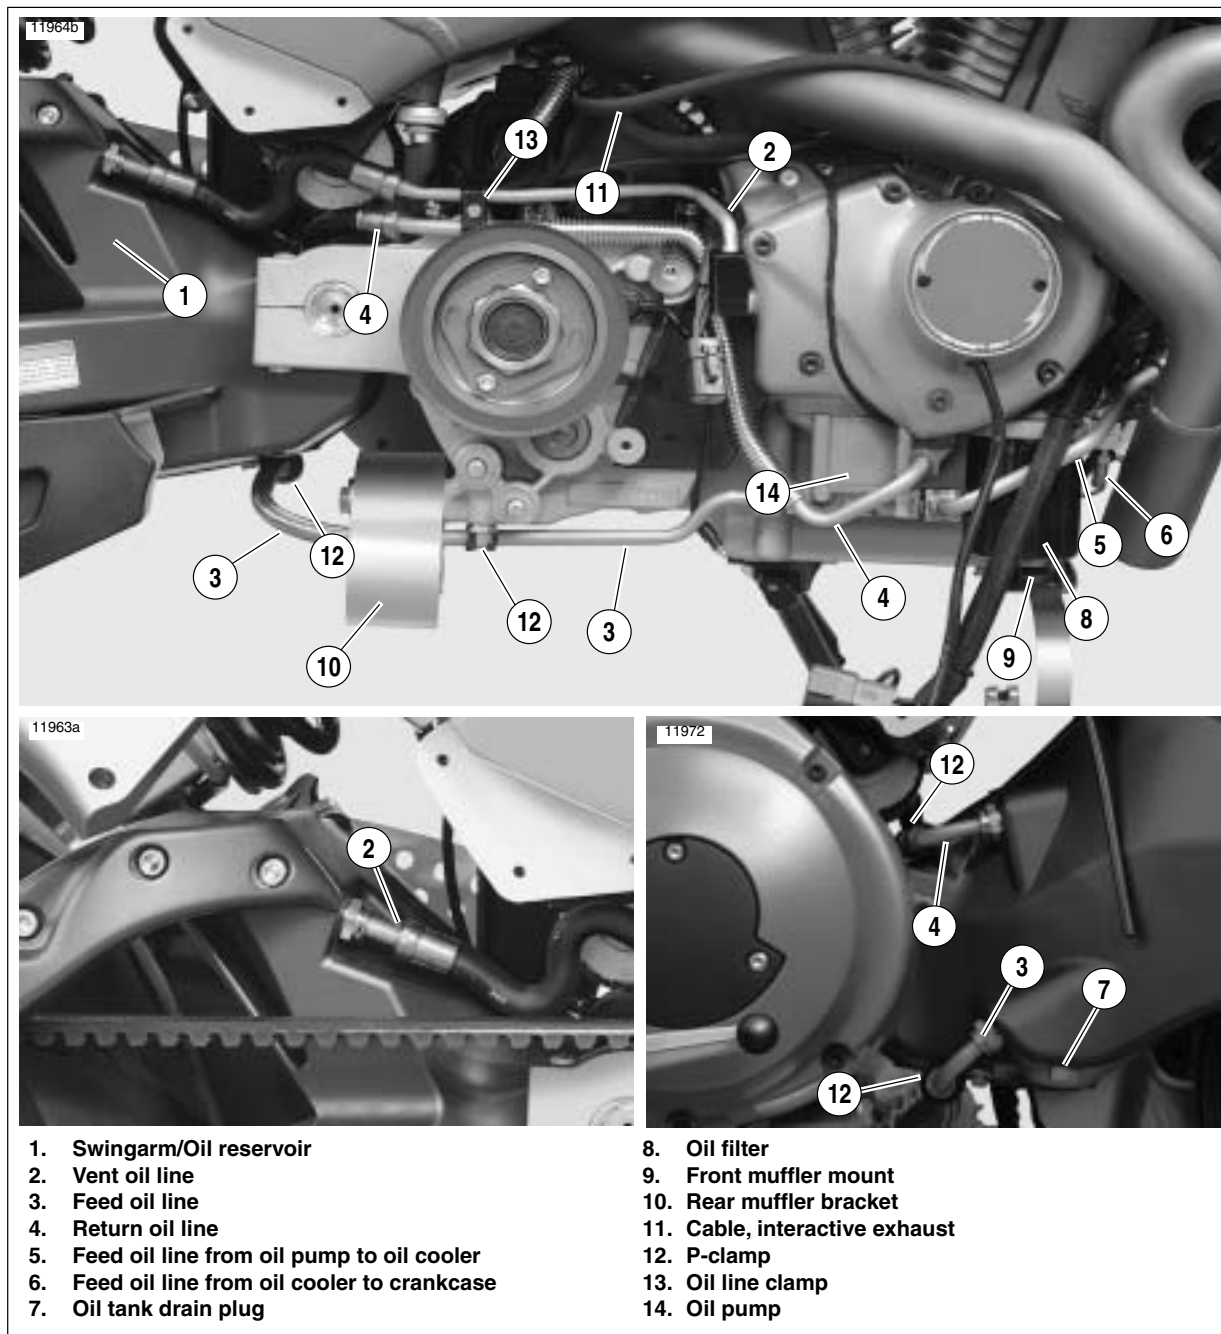
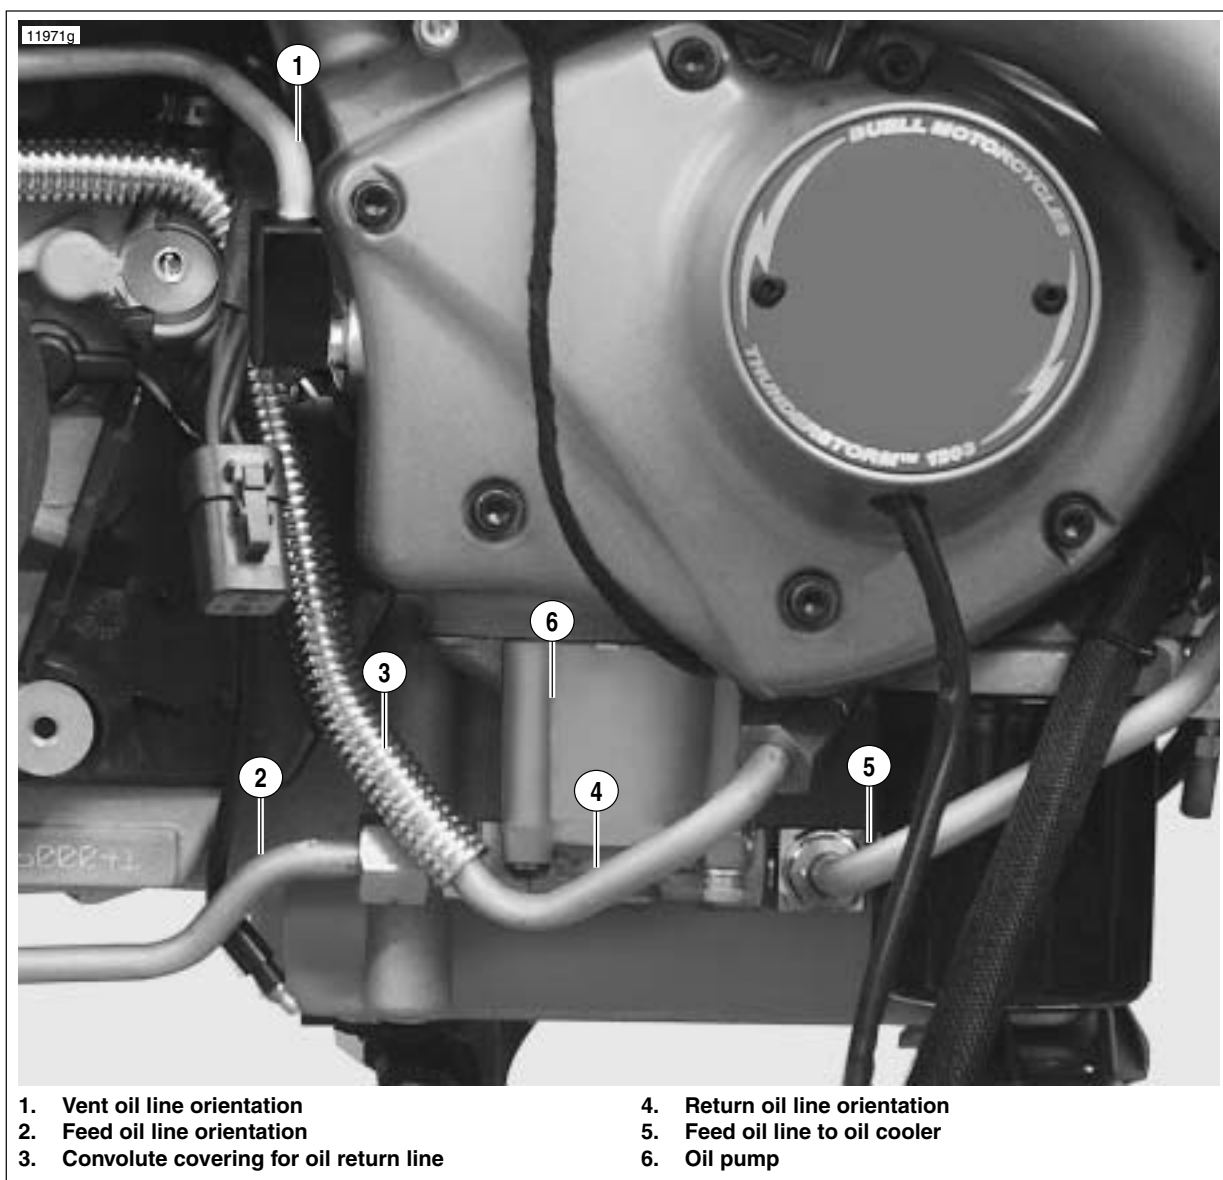

Figure 3-45. Oil Lines and Connections
Figure 3-46. Orientation of Feed Oil Line, Vent Oil Line and Return Oil Line at the Oil Pump
21. See Figure 3-45. Install the feed, return and vent oil lines starting at the engine and working towards the rear of the vehicle. Leave all oil line fittings loose at the engine at this time. See 3.10 OIL LINE FITTINGS.
22. See Figure 3-45. Install p-clamps (12) on feed oil line (3) at crankcase and swingarm/oil reservoir and tighten fastener to 48-72 **in-lbs** (5.4-8 Nm).
24. Install oil line clamp (13) attaching vent oil line (2) to return oil line (4) in front of starter motor and tighten to 40-50 **in-lbs** (5-5.5 Nm).
25. See Figure 3-46. The feed oil line (2) at the rear of the oil pump should be tightened to 27-29 ft-lbs (36.6-39.3 Nm).
26. Tighten the return oil line (4) at the top front oil pump fitting to 22-24 ft-lbs (29.8-32.5 Nm).
See Figure 3-46. Once the return oil line (4) has been installed it will be necessary to install the convolute covering (3) over the return oil line.
27. Tighten the vent oil line (1) at the gearcase cover to 12-13 ft-lbs (16.3-17.6 Nm).